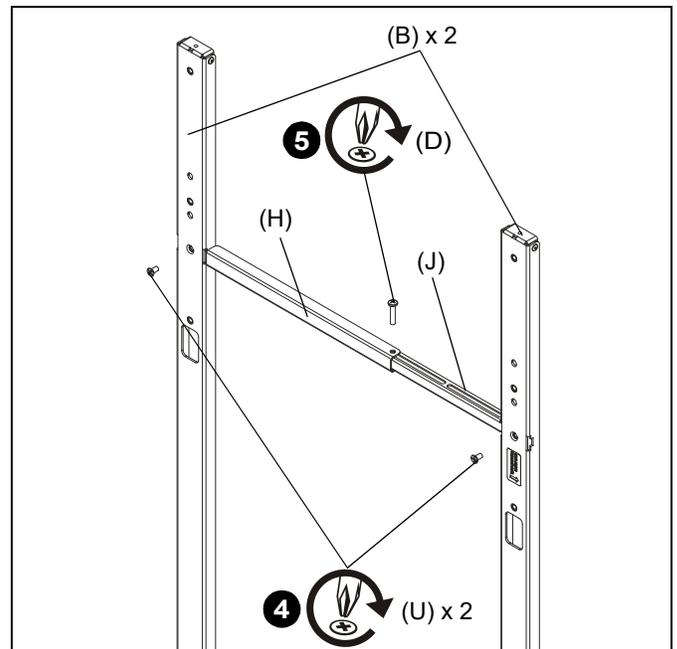

Figure 2
4. Use two 1/4-20 x 1/2" Phillips flathead screws (U) to secure long spacer bracket (H) and short spacer bracket (J) to top uprights (B). (See Figure 2)
5. Use 1/4-20 x 1 1/4" Phillips pan machine screw (D) to secure long spacer bracket (H) and short spacer bracket (J) together. (See Figure 2)